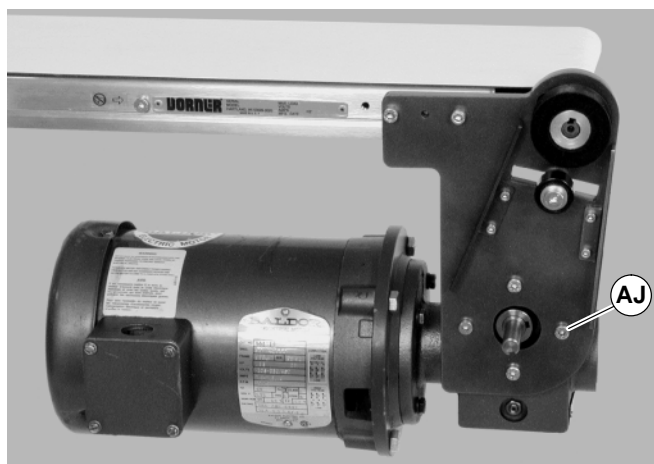

Figure 22
7. Remove four (4) gear reducer mounting screws (AJ of Figure 22). Remove gearmotor.